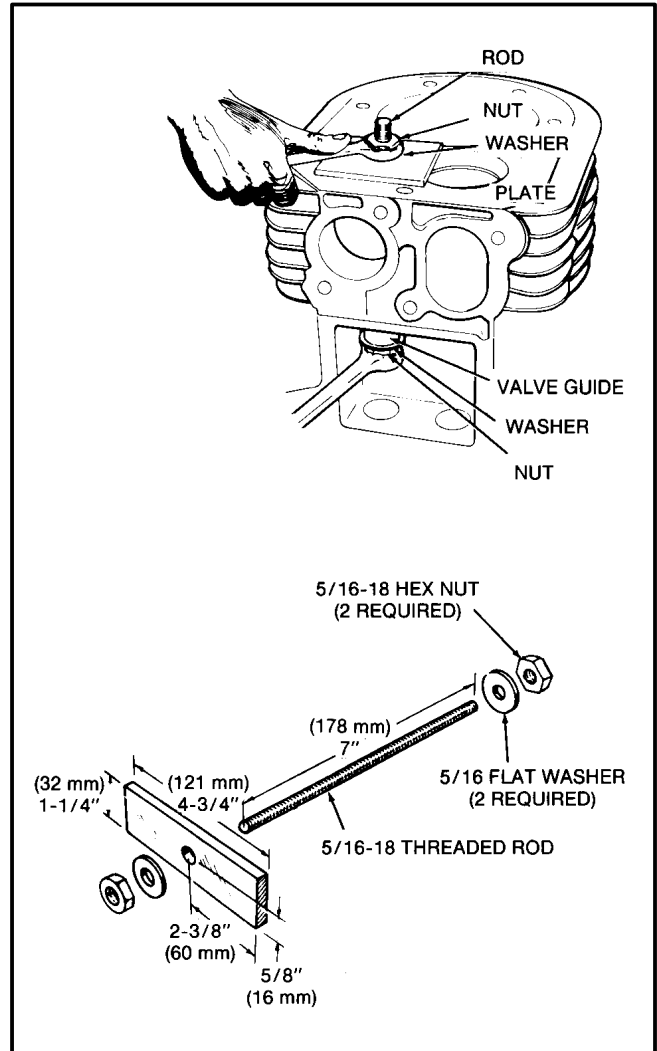

FIGURE 10-4. VALVE GUIDE INSTALLATION
3. Place the guide in the cylinder block and press in until the guide protrudes 11/32 inch (8.7 mm) from the valve box side of the block. A suggested method of installation is shown in Figure 10-4.